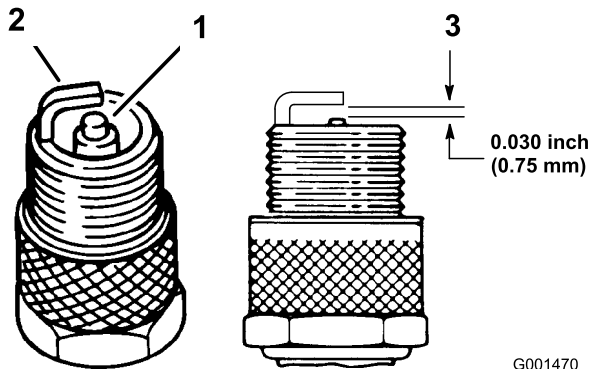

Figure 35
1. Look at the center of the spark plugs (Figure 35). If you see light brown or gray on the insulator, the engine is operating properly. A black coating on the insulator usually means that the air cleaner is dirty.
3. Check the gap between the center and side electrodes (Figure 35). Bend the side electrode (Figure 35) if the gap is not correct.